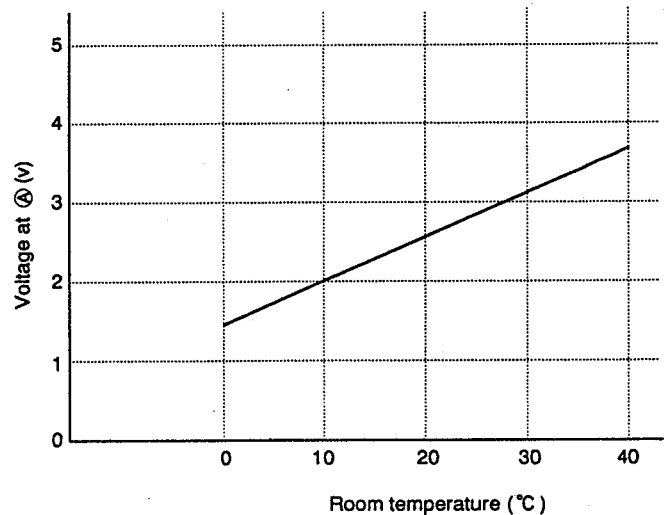

Fig. 5-2
The voltage at ③ depends on the room temperature as shown in Fig. 5-2.